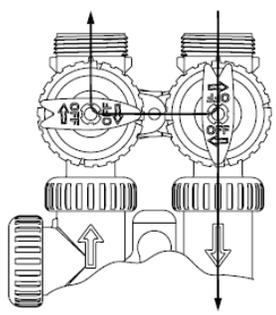

Figure 13
3. **Diagnostic Mode:** The inlet handle points in the direction of flow and the outlet handle points to the center of bypass valve, system water pressure is allowed to the control valve and the plumbing system while not allowing water to exit from the control valve to the plumbing. (See Figure 13)